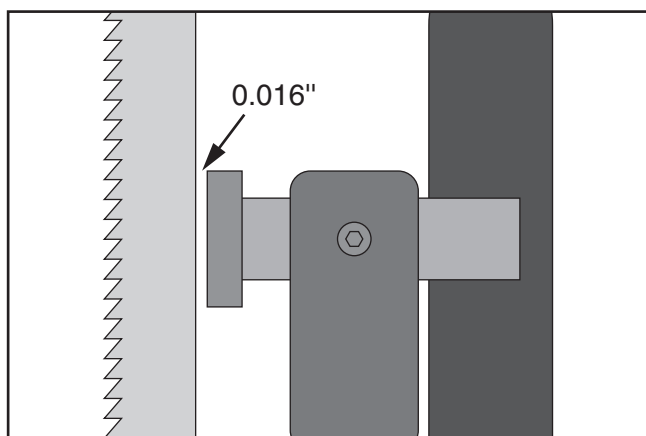

Figure 30. Blade should be aligned approximately 0.016" away from the bearing edge.
7. Use the knurled knob to position the support bearing approximately 0.016" away from the back of the blade, as illustrated in **Figure 30**. This can be measured with a feeler gauge.